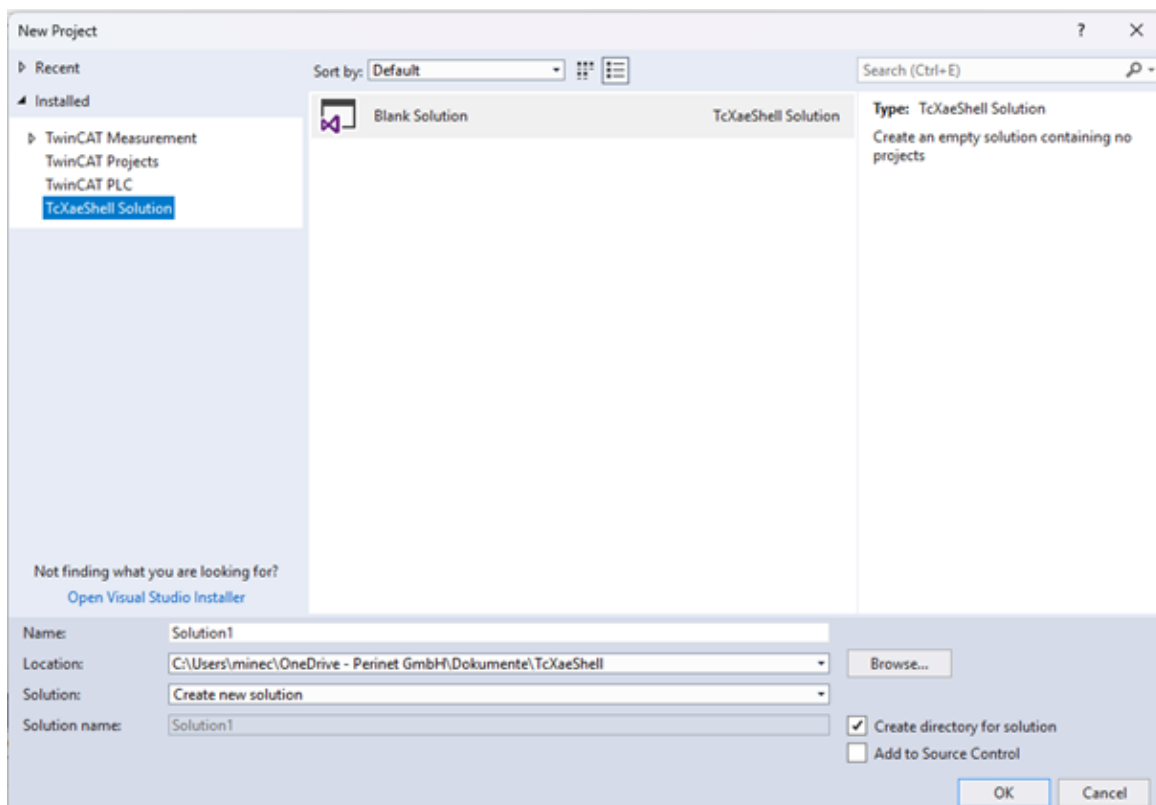

Figure 4: Create a blank solution
1. After the download of the program, the user should open the TwinCAT XAE shell program and start with creating a new solution from File -> New -> Project -> TcXaeShell Solution to create a blank solution as seen in Figure 4